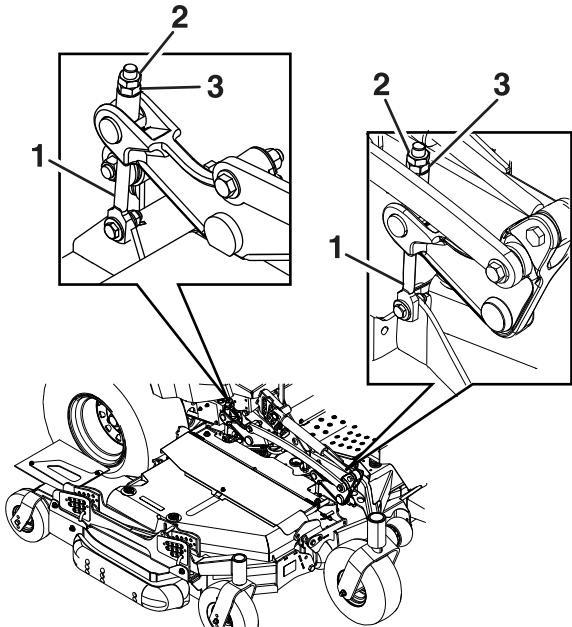

Figure 82
1. To increase the cutting height, turn the adjuster screw clockwise; to decrease, turn it counterclockwise. Loosen the jam nuts on the top of each deck adjuster. Fine-tune the adjuster on the front deck-lift assembly by turning it to get the correct height for the left and right, front blade tips on the center deck (Figure 82).
5. If the 4 deck adjusters (Figure 82) do not have enough adjustment to achieve the accurate
- To adjust the single-point system, first loosen the front and rear height-of-cut plate mounting bolts (Figure 82)